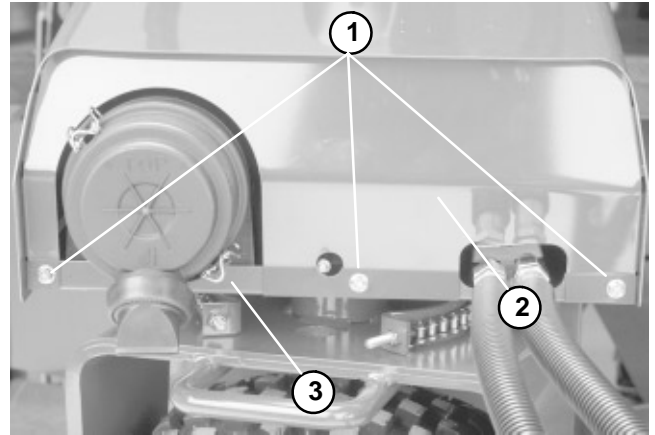
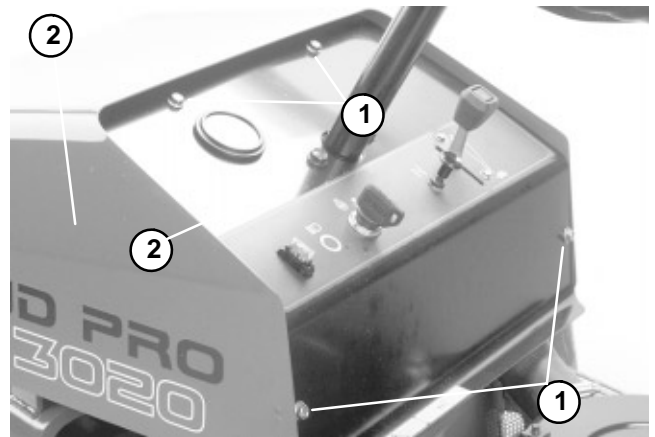

Figure 19
Figure 20
2. Remove three cap screws securing the hood to the front shield (Fig 19). Remove four cap screws securing the dash panel to the hood (Fig. 20).
4. Position hood to the front shield. Position dash panel to the hood. Secure dash panel to the hood with four cap screws (Fig. 20). Secure hood to the front shield with three cap screws (Fig 19).